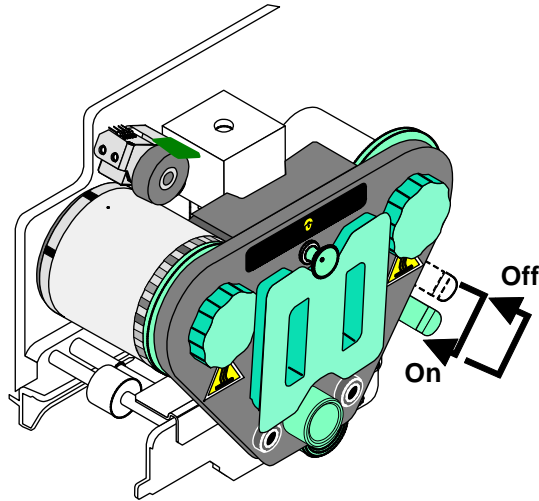

Figure 2-13: Lift the handle, move the debower, and lower it
- 2 Pull out the handle for the debower and move it to the desired position for the card type. Figure 2-13 shows the on and off positions for the debower.